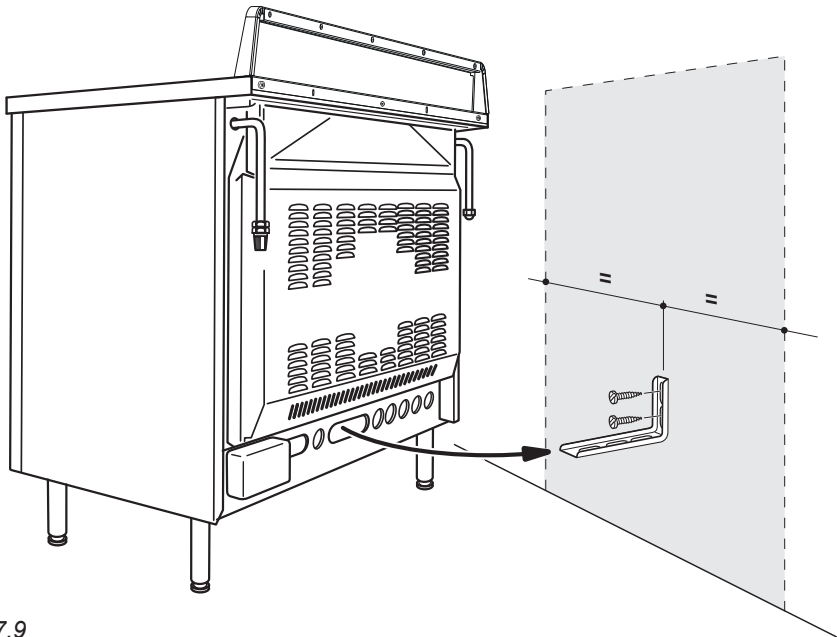

Fig. 7.9
1. After you have located where the cooker is to be positioned, mark on the wall the place where the two screws of the anti-tilt bracket have to be fitted. Please follow the indications given in fig. 7.9.
4. Move the cooker to the wall and adjust the height of the anti-tilt bracket so that it can engage in the slot on the cooker's back, as shown in fig. 7.9.